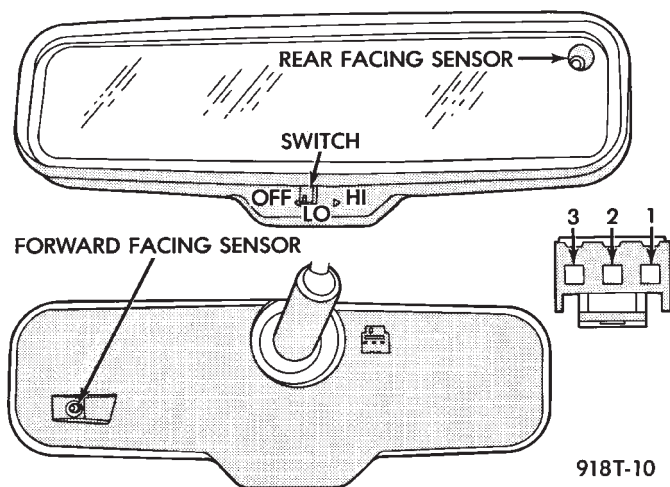

Fig. 1 Automatic Day/Night Mirror
- Place mirror switch in either the low or high position (Fig. 1).
If the above conditions are not met, perform the following voltage tests (Fig. 1).